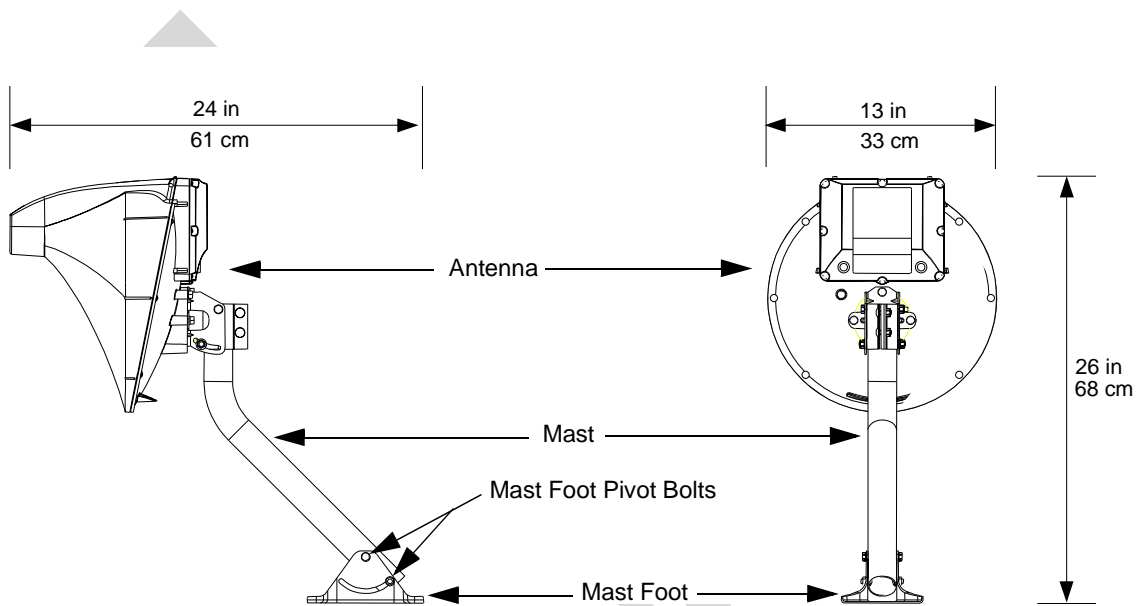
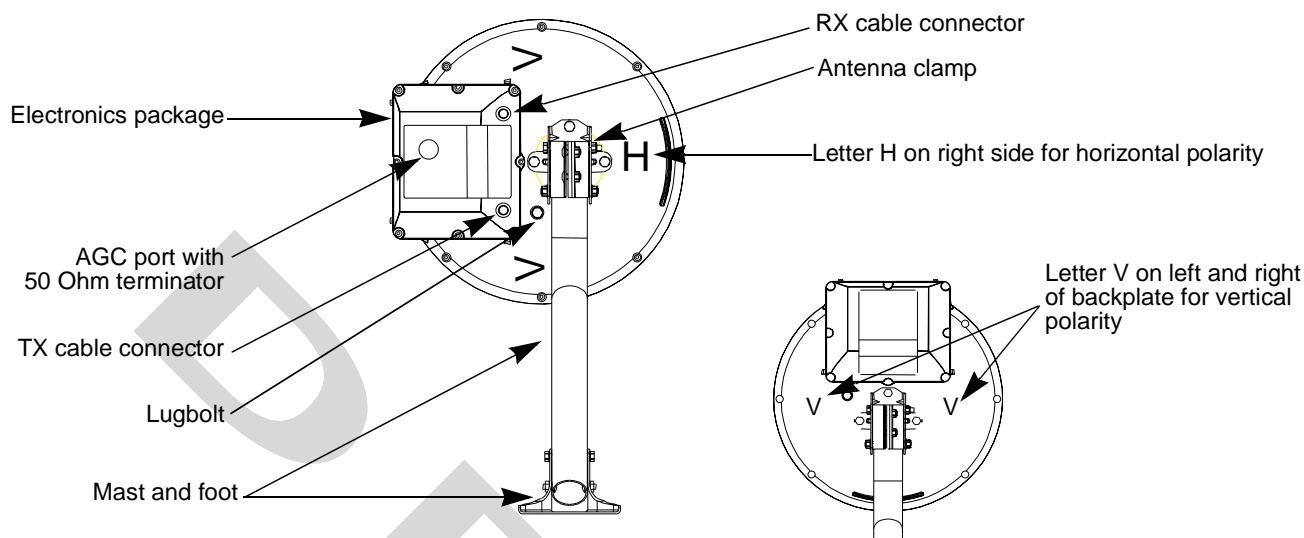

Figure 1. RTU Dimensions
Figure 3. Antenna Polarity
1. Position the mast (see Figure 1) so the pivot bolt holes align with the hole and slot on the foot.
Use a level to ensure the mast is vertical, and tighten the mast foot pivot bolts (see Figure 1). Ensure all assembly hardware and cable connections are secure and tight. Check the CPE Installation Worksheet to determine the antenna polarity setting for the particular customer site. The antenna electronics package is located at the top when the antenna is set for vertical polarity and at the side when set for horizontal polarity (see Figure 3).
Face the backside of the antenna (see Figure 3). For horizontal polarity, attach the post clamp so the letter H is positioned to the right of the backplate. For vertical polarity, attach the clamp so the letter V displays to the left and right of the backplate.
If an RTU is mounted to a platform attached to the main building lightning protection system, attach a lightning ground wire from the lugbolt on the antenna (see Figure 3) to the RTU foot.
If an RTU is mounted to a platform that is NOT attached to the main building lightning protection system, connect the lightning grounding wire to the antenna lugbolt (see Figure 3) and then to the grounding rod outside the building at ground level.